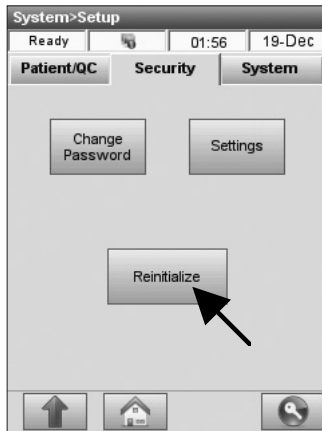

Fig. 3-68 Reinitialize
2. In the **<System Setup -> Security>** menu, press **<Reinitialize>** (Fig. 3-68).